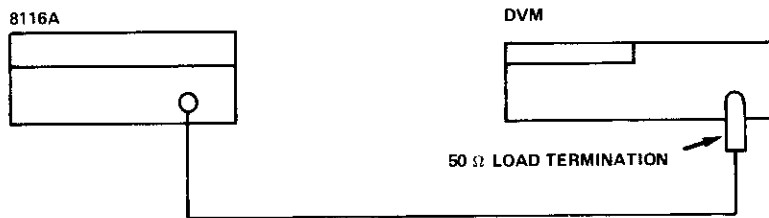

Figure 4-2. Test Setup for Amplitude and Offset
1. Connect the equipment as shown in Figure 4-2.